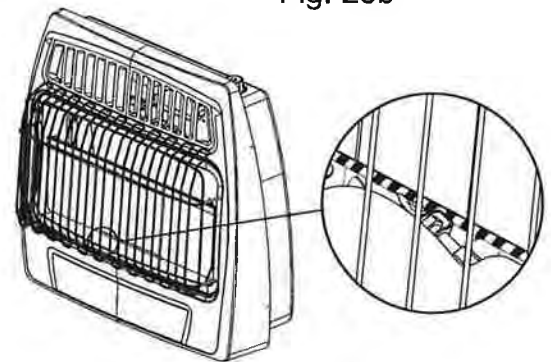

Fig. 24 - Pilot Flame Location
6. With control knob depressed, repeatedly push down the piezo ignitor "⚡" until the pilot lights. The pilot is visible, centered below the main burner, behind the glass panel. (See Fig. 24 on page 19)
7. Keep control depressed for (30) seconds after pilot lights. Release control knob.
6. With control knob depressed, repeatedly push down the piezo ignitor until the pilot lights. The pilot is visible, centered below the main burner, behind the glass panel. (See Fig. 24)